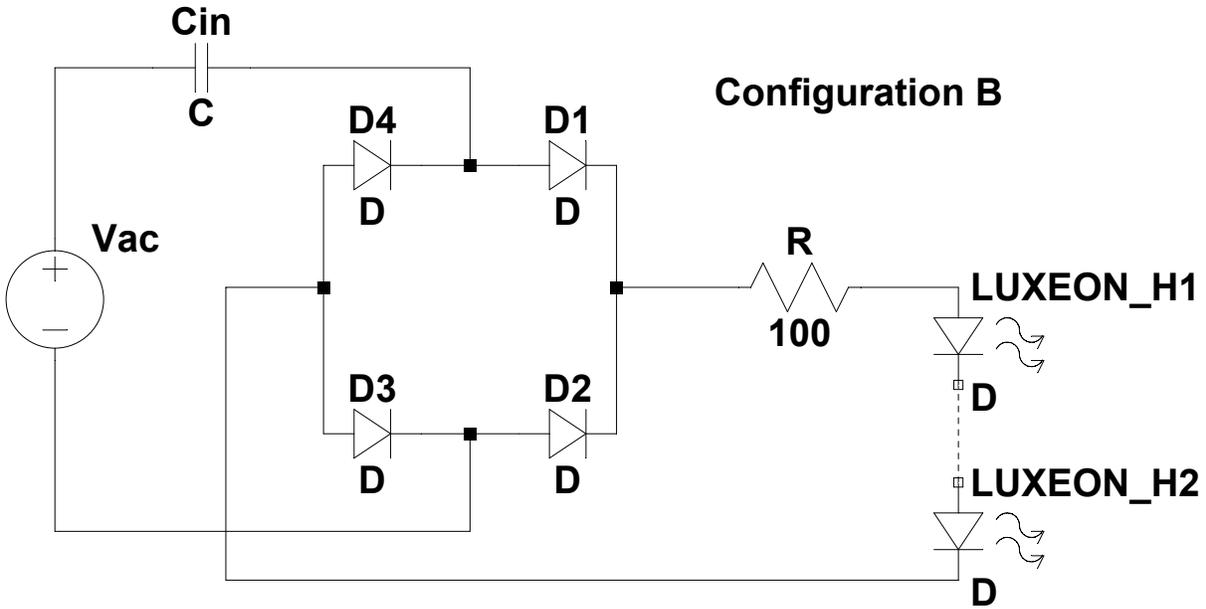

Figure 6. Configuration B, for use with Table 2.
2. Configuration B: Input capacitor and 100 $\Omega$  resistor in series with LUXEON H LEDs (Figure 6)